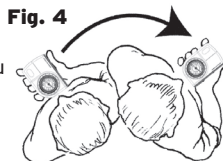

Fig. 4
2. Turn your body until the needle is aligned with the red needle outline. You now face your correct direction of travel (fig 4)